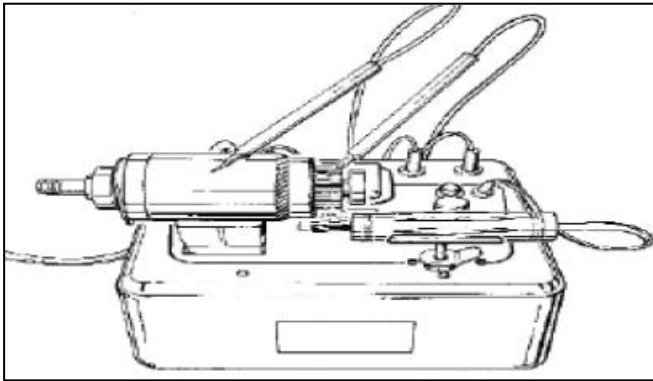

Figure 10-11
1. Check armature for grounded circuits by placing one test lead of a Dielectric Breakdown Tester, also referred to as a “growler”, on the commutator and other lead at armature shaft. The ground test light should not flash. A flash indicates failed insulation between core and armature wiring. See Figure 10-11.